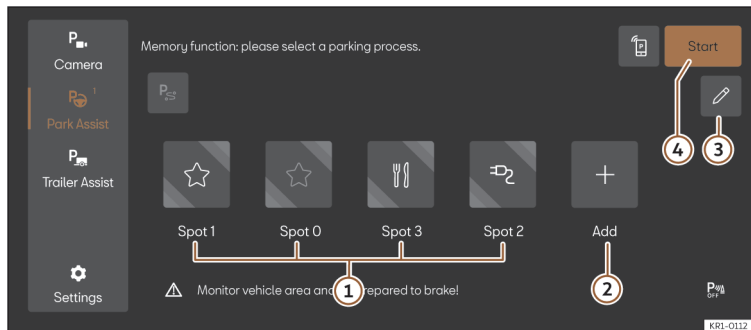

Fig. 158 Schematic representation: Park Assist menu with memory function.
4. Select the function button, assign the symbol you want (**>>> Fig. 158 ①**) and confirm it.
2. If necessary, click on the parking space available icon in the Parking System menu >>> **Fig. 158 ①**. The function button will be displayed in copper.
3. Press the **Start** button >>> **Fig. 158 ④**.